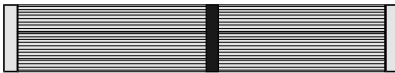

Figure 1-1 UDMA66 IDE cable
- One 40-pin UDMA-66/100 IDE connector ribbon cable (Figure 1-1)